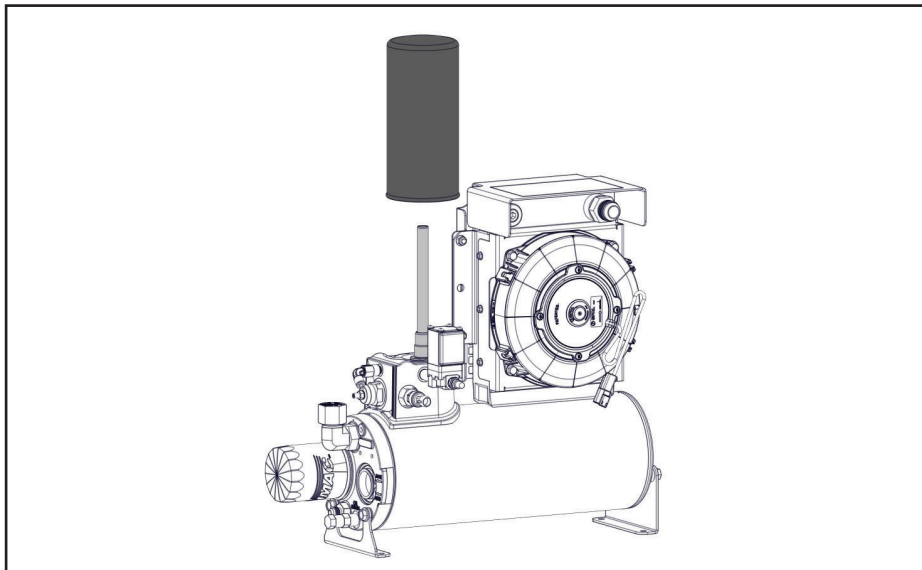

Figure 33 — Coalescing filter
- Remove the spin-on coalescing filter by turning it counterclockwise (Figure 33).
- Clean the gasket sealing surface and inspect it for damage. The surface must be free of old gasket material and smooth to ensure a good seal (Figure 33).